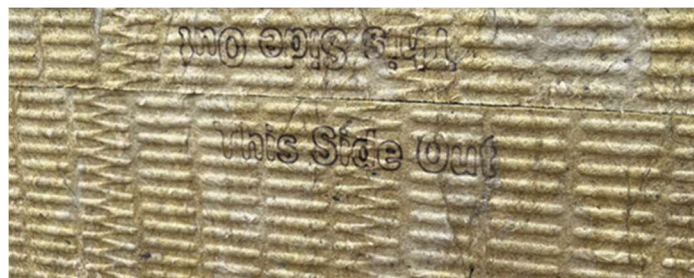

Fig. 30
4. When dual density insulation is used, ensure that the high-density side faces outward as identified by the branding “This Side Out” – **Figure 30.**